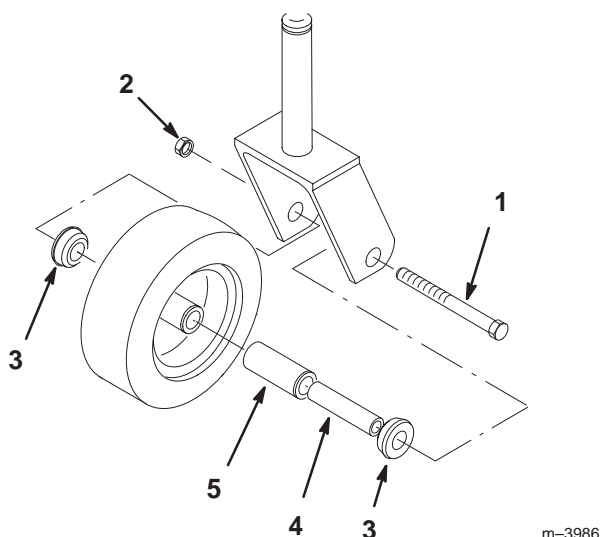

Figure 30
1. Remove the locknut and wheel bolt holding the caster wheel to the caster fork (Fig. 30).
2. Remove one bushing, then pull the spanner bushing and roller bearing out of the wheel hub (Fig. 30).
3. Remove the other bushing from the wheel hub and clean any grease and dirt from the wheel hub (Fig. 30).
4. Inspect the roller bearing, bushings, spanner bushing and inside of the wheel hub for wear. Replace any defective or worn parts (Fig. 30).
- To assemble, place 1 bushing into the wheel hub. Grease the roller bearing and spanner bushing and slide them into the wheel hub. Place the second bushing into the wheel hub (Fig. 30).
- Install the washers on the outsides of the bushings, then install the caster wheel into the caster fork and secure with the wheel bolt and locknut. Tighten the locknut until the spanner bushing bottoms against the inside of the caster forks (Fig. 30).